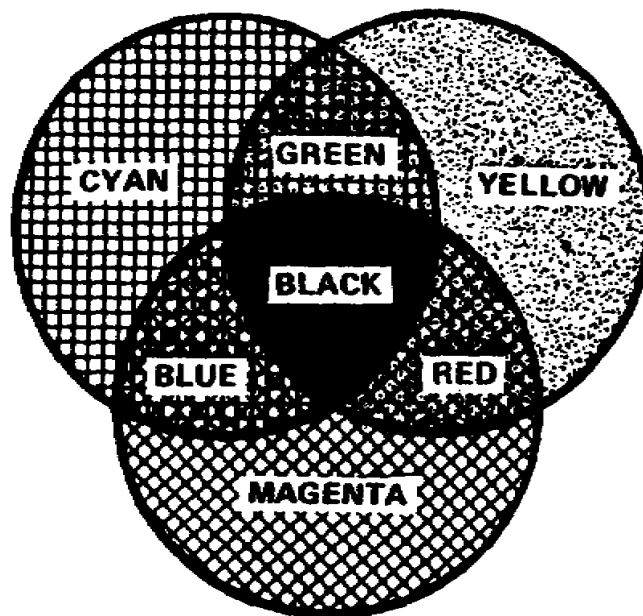

Figure 2-3. Subtractive color system
f. Since each of the subtractive primary filters transmits approximately two-thirds of the visible spectrum, we can superimpose any two of them over a single light source to produce other colors. Refer to Figure 2-3 for an illustration of the principle of the subtractive color process. Notice